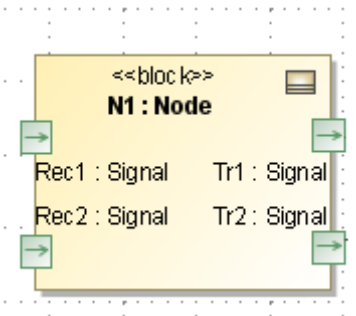

Figure 5.2 Node with Ports
- ii. Each node has four flowports, two for receiving message traffic and two for transmitting (see Figure 5.2). To create a flowport